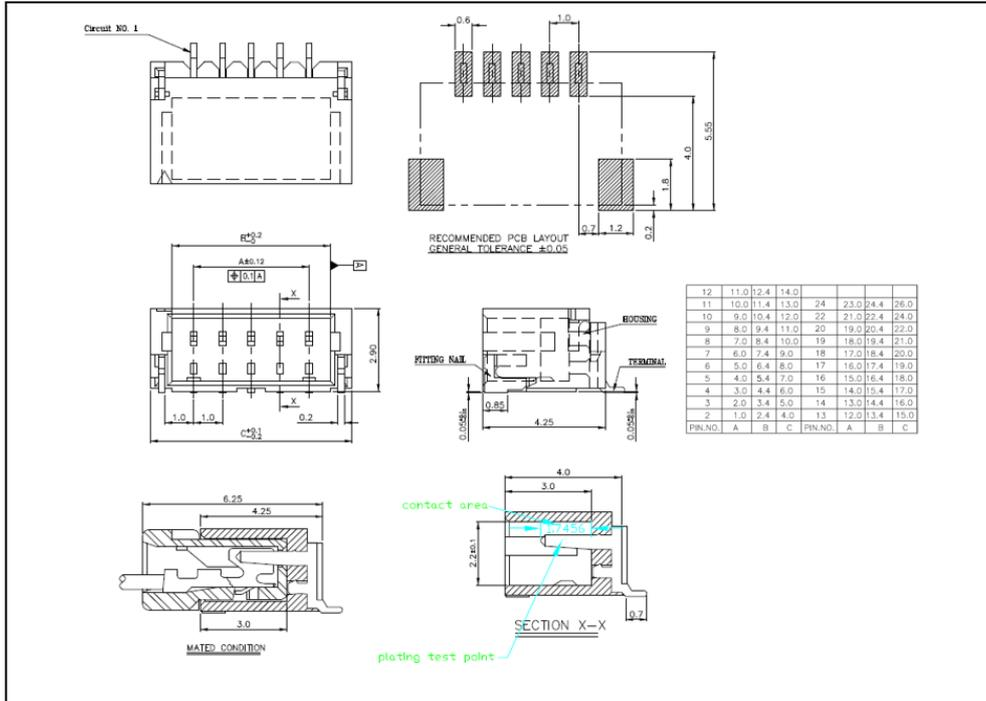

Figure 2: ACM1552U-Z JST Connector (Male) Specification
- Figure 2: ACM1552U-Z JST Connector (Male) Specification 6